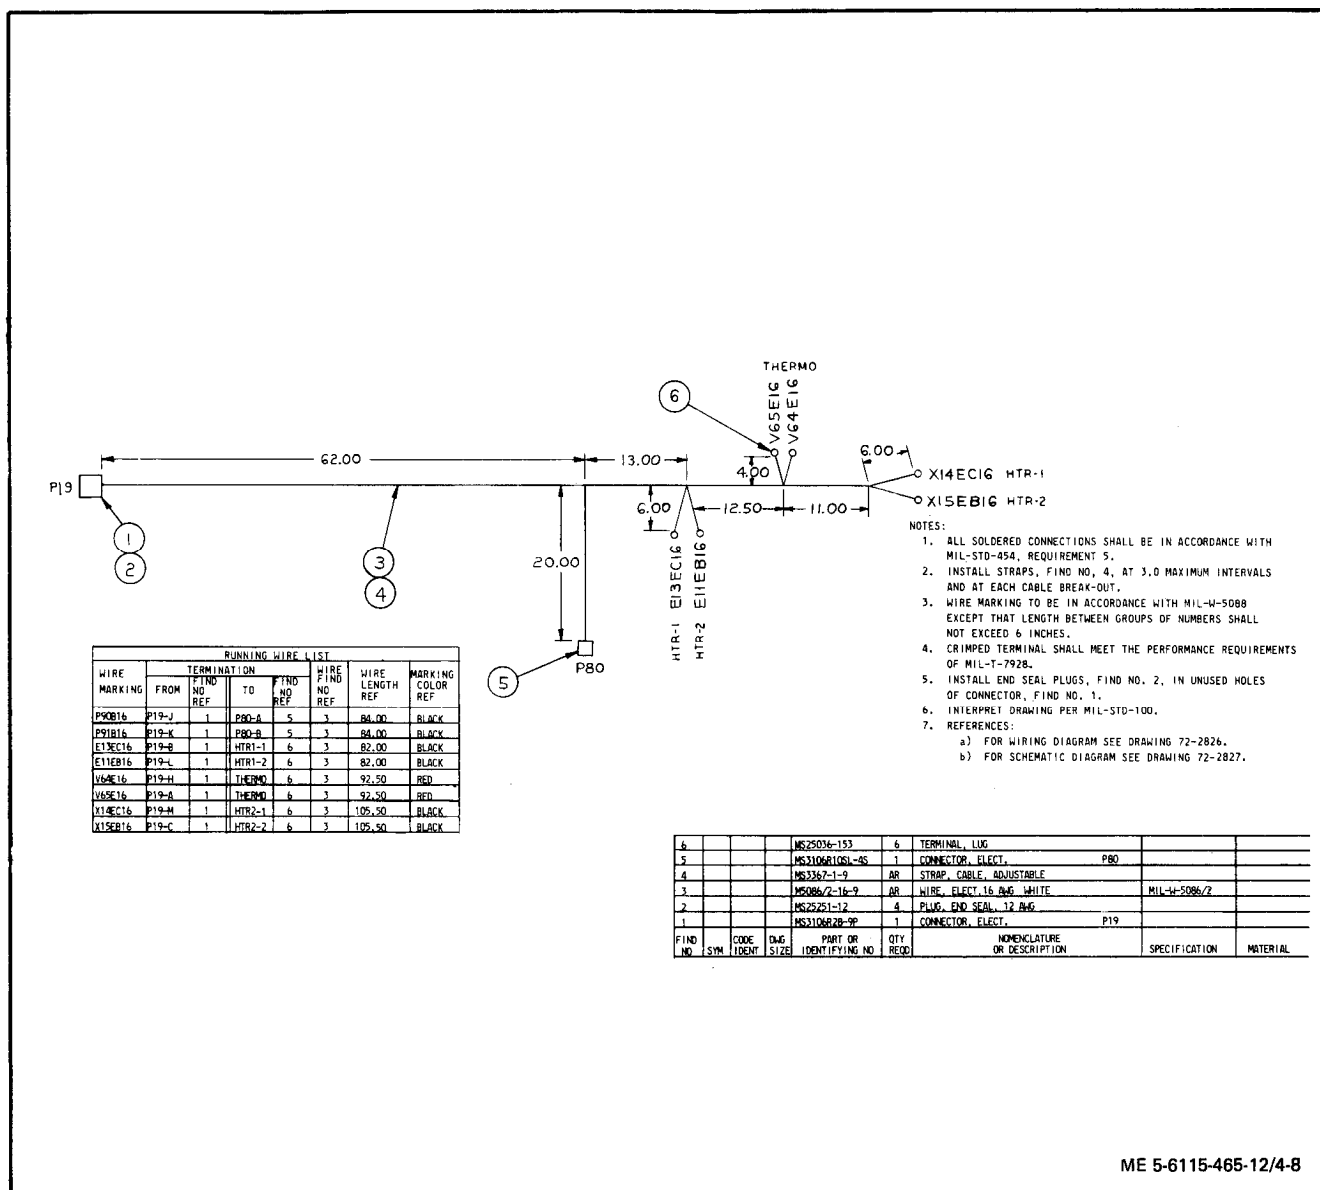

Figure 4-8. Electric Winterization Kit Wiring Harness, Dwg. No. 72-2855
(3) Testing. Test continuity of individual wires using a multimeter or continuity light, using figure 4-8 as a guide.